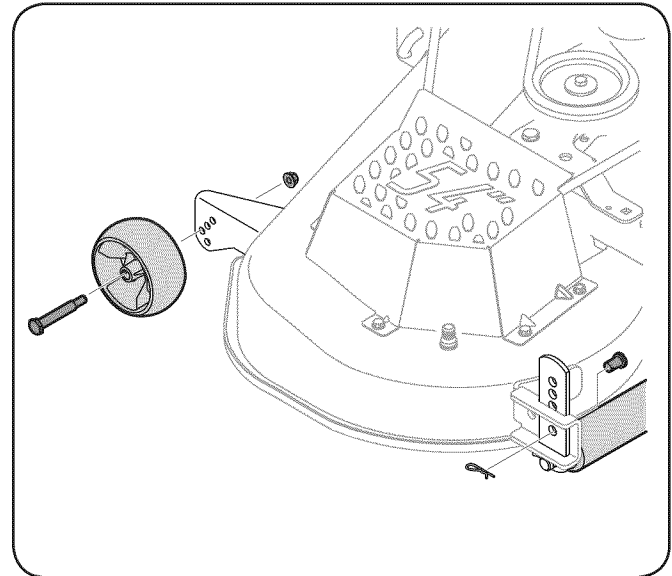

Figure 3-4
- b. Remove the front gauge wheels by removing the lock nuts and shoulder screws which secure them to the deck. See Fig. 3-4
- e. Remove the clevis pins and hairpin clips from the deck roller brackets on the left and right sides of the cutting deck. See Fig. 3-4.